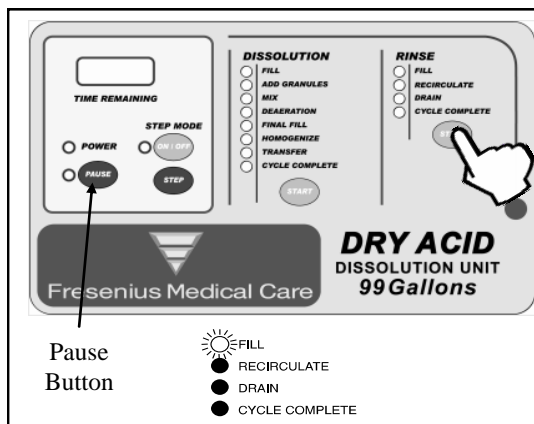

Figure 1
2. Turn the power ON and ensure that the water supply valve is OPEN then press the Rinse START button. The Fill LED will turn on indicating the Rinse Cycle has started and the Dry Acid Dissolution Unit is in Fill Mode (Figure 1).